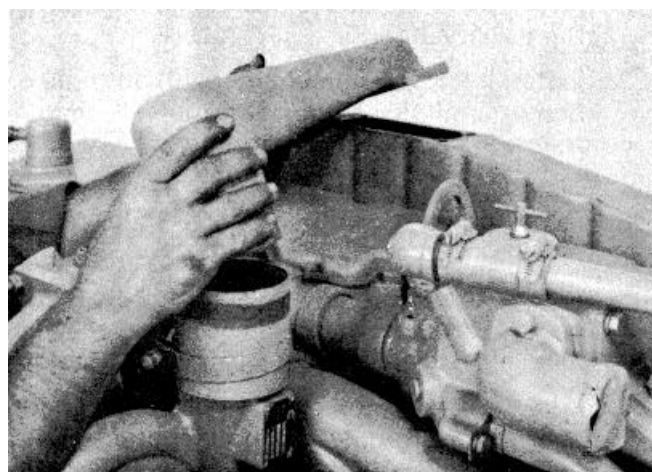

Fig. 14-82. Install The Air Intake Crossover.
6. Install the air intake crossover onto the turbocharger and the air intake manifold or the aftercooler, Fig. 14-82. Use a new rubber tubing connection and new gasket. Tighten the capscrews into the air intake manifold or after-